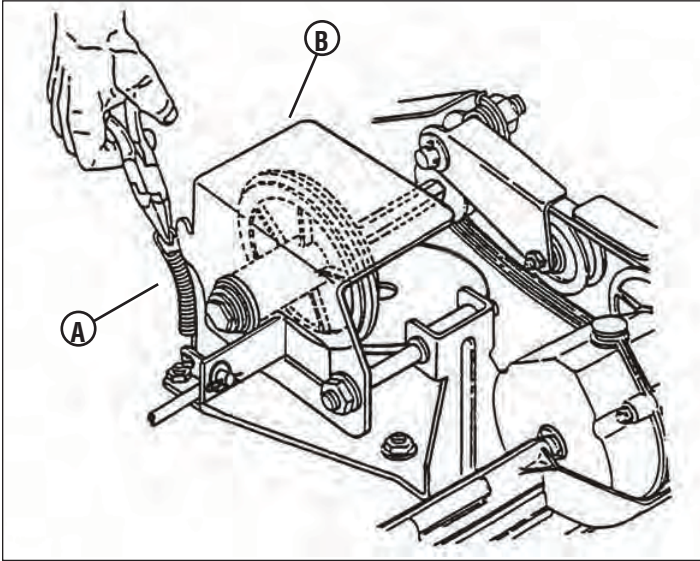

Figure 9
- Remove the driven disc spring (A, Figure 9) from the driven disc assembly (B) as shown.
- Replace the driven disc spring to the driven disc assembly. See Figure 9.